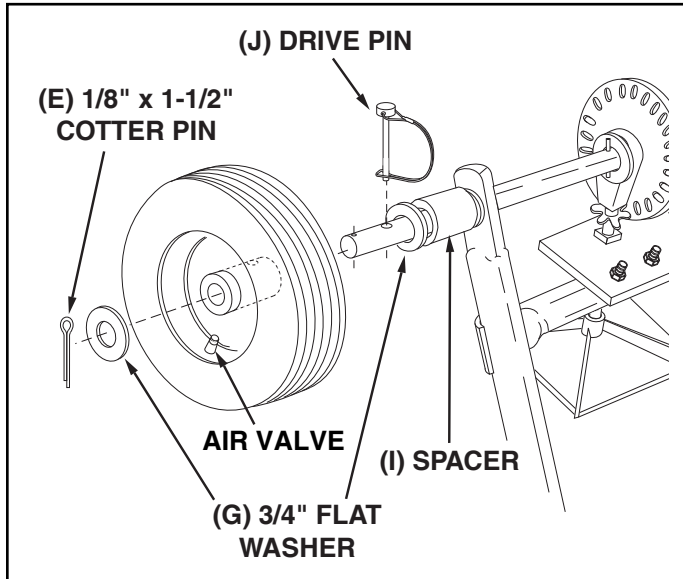

FIGURE 4
- Assemble a spacer (I), a 3/4" flat washer (G), a wheel (air valve facing out) and another 3/4" flat washer (G) onto the end of the axle that has both the **large and small holes**. See figure 4.
- Install a 1/8" x 1-1/2" cotter pin (E) into the small hole in the end of the axle. See figure 4.
- Open the bail on the drive pin (J) and install it through the wheel and the large hole in the axle. Close the bail to lock the pin in place. See figure 4.
(Refer to figure 4 on page 5.)
1. If the axle, slotted gear and sprocket assembly is disassembled, mark down the positions of the parts as they are removed. The drive wheel and sprocket positions in relation to the slotted gear determine which direction the spreader plate will spin. Be sure to reassemble them in their original positions. (Refer to figure 4 on page 5.) Use shim washers (Ref. no. 21 on pages 18 and 19) as needed for minimum backlash. Add grease to gear and sprocket.